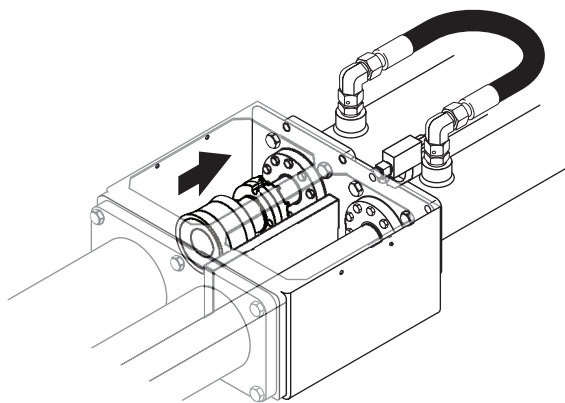

Figure 26
10. Restart the engine and clear all E-stops. Press the concrete pump forward or reverse button and Ram Change Mode button simultaneously to slowly retract the cylinder rod until the ram is clear of the material cylinder (Figure 26). Release the concrete pump forward/reverse or ram change button to stop the differential cylinders. Shut off the engine.